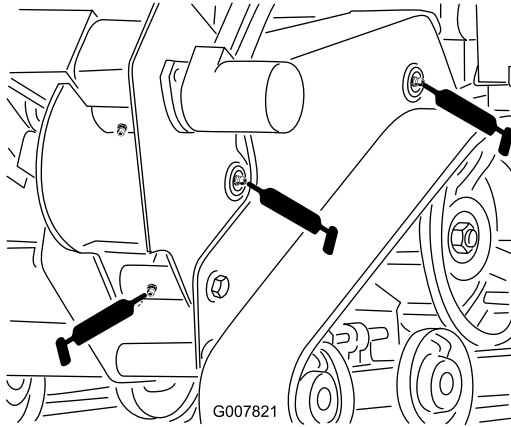
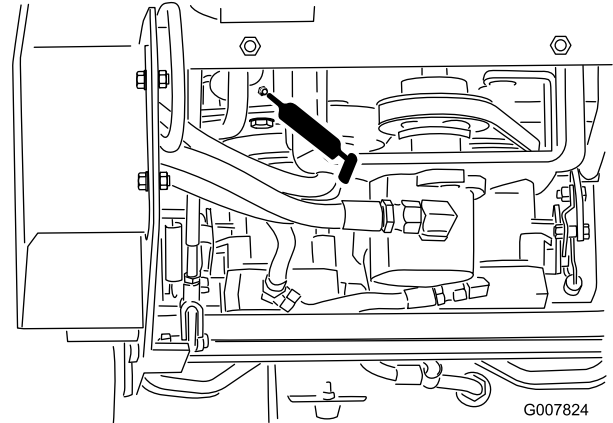

Figure 28
Figure 31
3. Connect a grease gun to each fitting (Figure 28 through Figure 31).